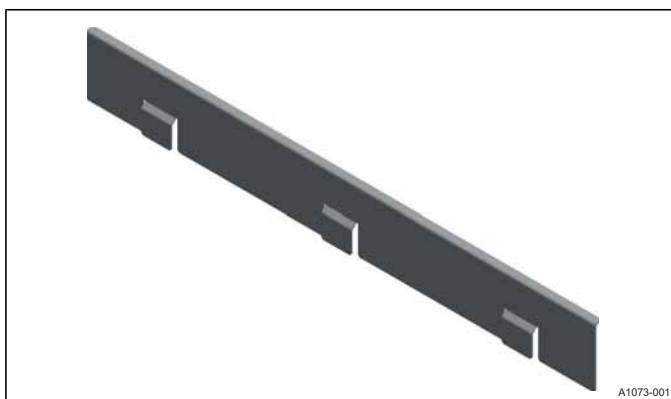

FIGURE 13: Condensate Shield
1. Attach the additional Downflow Condensate Shield (provided in the loose parts kit with this unit, and shown in Figure 13) to the primary drain pan underneath the coil slab by inserting the shield shown in Figure 10. Make sure that the shield is seated fully onto the primary drain pan.
2. Locate the downflow condensate shield (as shown in Figure 13) and foam gasket strip shipped in the loose parts kit included with the coil.